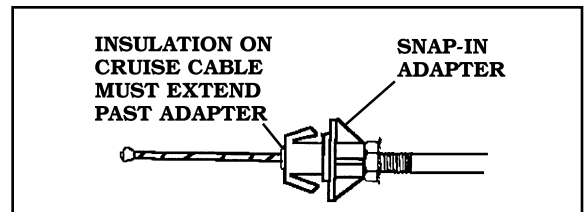

FIGURE 21
2. AFTER THE THREADS HAVE BEEN FORMED, SCREW THE **SNAP-IN ADAPTER** ONTO THE **CRUISE CABLE**. **FIGURE 21**